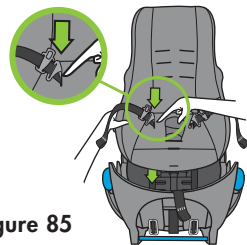

Figure 85
- Push Buckle Tongue down through hip strap opening in Carrier Cover and Inner Carrier Shell, as shown in **Figure 85**.